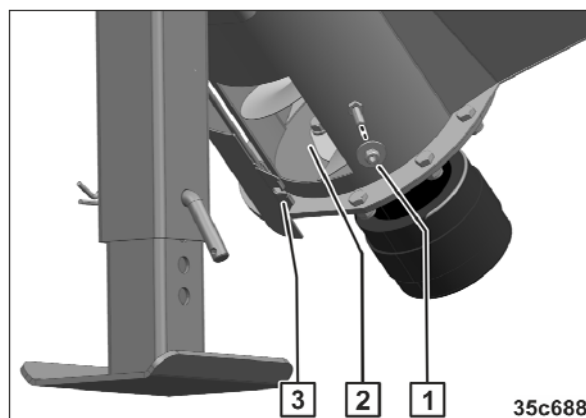

Fig. 281
2. Remove the nut and disc (Fig. 281/1).
3. Open the flap (Fig. 281/3).